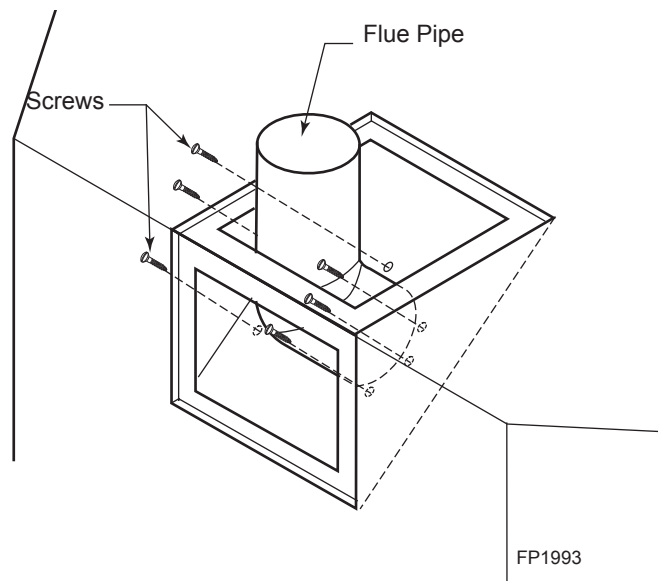

Figure 10 - Attaching Flue Pipe to Top Vent Configurations
5. Replace flue pipe to top of firebox. Ensure the gasket is in place and undamaged. Secure with six (6) screws. *Figure 10*
7. Refit the flue pipe adapter and gasket to the top of fireplace. Secure the adapter with eight (8) screws removed in step 1.